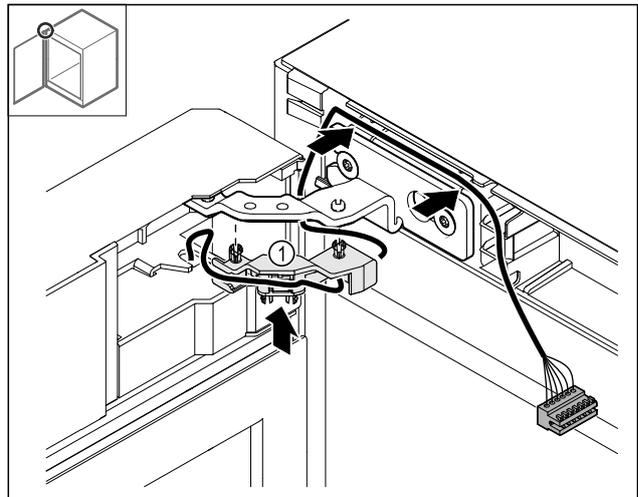

Fig. 47
- ▶ Push the cable holder Fig. 47 (1) into the hinge.